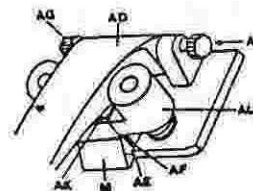

Fig. 3
This splicer does not require special servicing. All that is needed is to remove the adhesive deposits which, from time to time, collect on the inner parts of the "U"-knife (AE, fig. 3) and inside the perforator heads (AF).